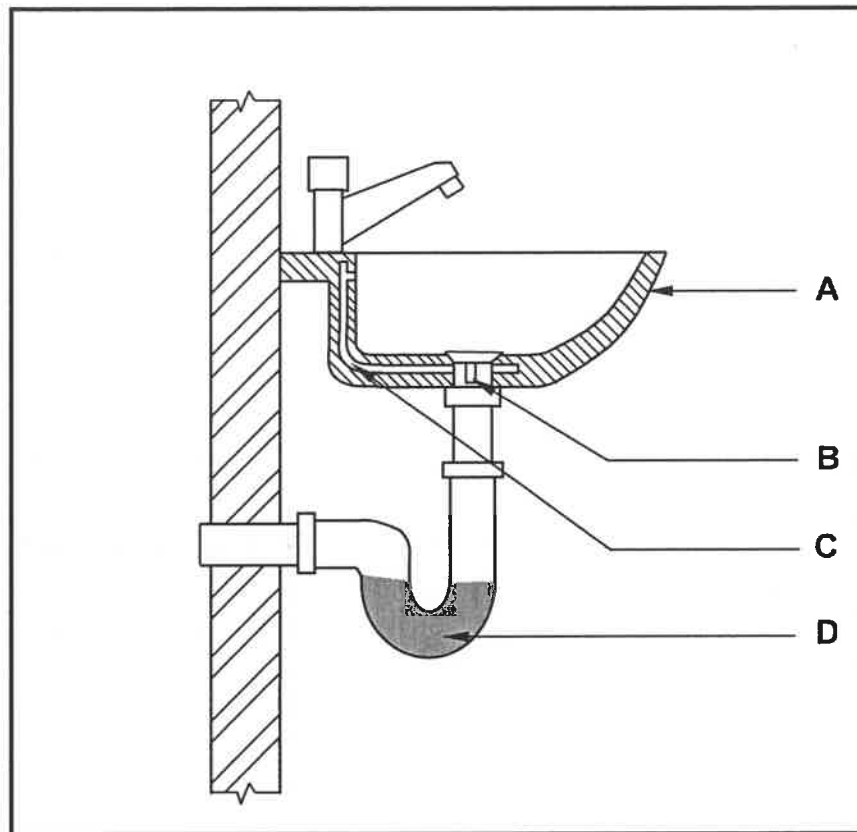

FIGURE 6.4
6.4 FIGURE 6.4 below shows the installation of a washbasin.